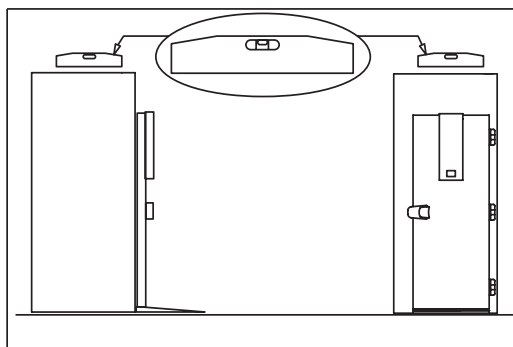

Fig.5
- position the retarder-proofer/dough-retarder Refrigerated Room using a level with possible adjustment of the feet of the metal base (Fig. 5)
- position the retarder-proofer/dough-retarder Refrigerated Room as described above (Fig. 5)
Parameters (Fig.5)